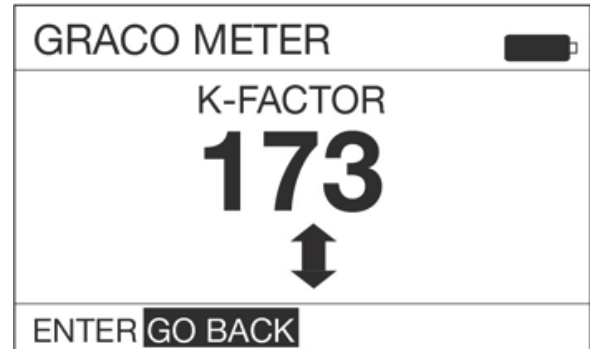

FIG. 20
3. The k-factor adjustment screen shown in FIG. 20 displays.